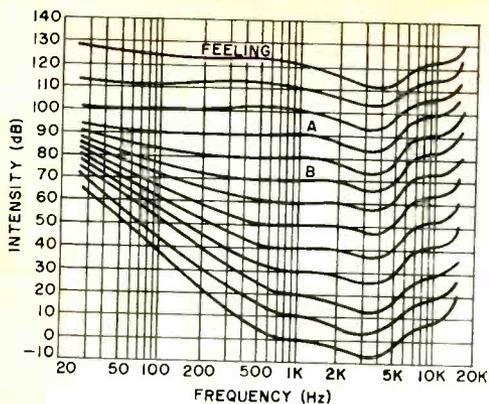

Fig. 1. Fletcher-Munson equal loudness curves pertain to human hearing.
3. *The Fletcher-Munson curves (see Fig. 1) show that the ear is less sensitive to the bass than it is to the midrange audio frequencies. Hence, loudspeakers should boost bass to make up for the characteristic.*
**Fallacy:** If we listen to reproduced sound at the same loudness level as that of the original, the frequency response should be flat. But a lower loudness level alters tonal balance as shown in Fig. 1. Suppose the original sound was at level A where the ear requires 2 dB more power at 50 Hz than at 1000 Hz for a given loudness sensation. If the reproduced sound level were at B, 50 Hz requires 12 dB more power than 1000 Hz for equal loudness. There is now a deficiency of 10 dB, and the reproduction appears to be deficient in bass response. To restore tonal balance, 50 Hz must be boosted 10 dB as with a compensated loudness network. Since the amount of boost required is dependent on the volume level, the loudness compensation network should not be built into the loudspeaker where it would have a fixed characteristic. Also, loudspeakers should not be compensated to make up